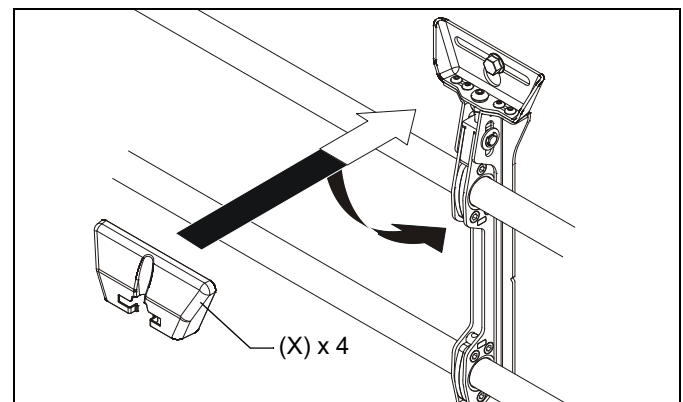

Figure 14
1. Attach wall covers (X) to top and bottom of both wall brackets. (See Figure 14)
3. **(MTM1U / LTM1U only)** Move latch on top of interface brackets to CLOSED position. (See Figure 14)